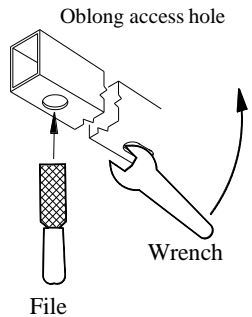

Figure 3
- Remove appearance panels on both side near the wheel well and covering the frame rails, remove (2) hex nuts (M10 socket) on bottom of the frame rail and (2) hex nuts with a (M5.5 socket) at the bottom of the frame rail. Both sides. Will need to trim or remove once hitch is in place.
- Feed the coiled end of the pull wire through rearward hole and out the access hole. Attach spacer and carriage bolt onto pull wire and feed the fasteners into location through the hole. Leave pull wires attached. Repeat the same process on the both frame rails. Note: it may be easier to install the carriage bolt head first. Repeat with the forward holes. Both frame rails. Note: carriage bolt tight fit into access hole may be necessary to use a file or wrench to open access hole. See figure 3.
3. Feed the coiled end of the pull wire through rearward hole and out the access hole. Attach spacer and carriage bolt onto pull wire and feed the fasteners into location through the hole. Leave pull wires attached. Repeat the same process on the both frame rails. Note: it may be easier to install the carriage bolt head first. Repeat with the forward holes. Both frame rails. Note: carriage bolt tight fit into access hole may be necessary to use a file or wrench to open access hole. See figure 3.